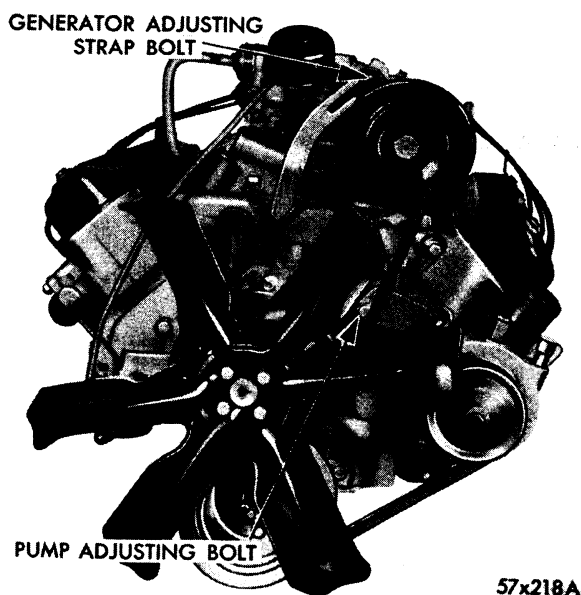

Fig. 10—Adjusting of Fan Belts
**NOTE:** When adjusting fan and accessory belt drives as shown in Figure 10, refer to Section IV, Accessory Belt Drives in this Manual.